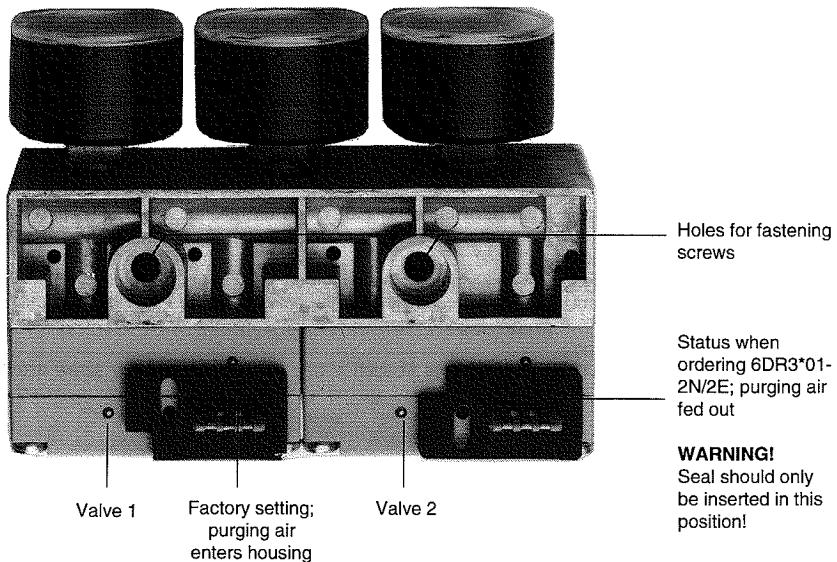

Figure 6 Settings for purging air
- Detach the complete valve manifold from the housing by loosening both fastening screws (Figure 6).
- Rotate the seal on valve number 1 through 180° (see the position of the seal on valve 2 in Figure 6).
After initialisation, the positioner can be configured to meet the requirements of the task in hand. The factory setting permits an immediate switch over from manual into automatic mode (Figure 6), as it corresponds to that required for a typical application and is set up in such a way that normally only a few parameters will need to be changed.